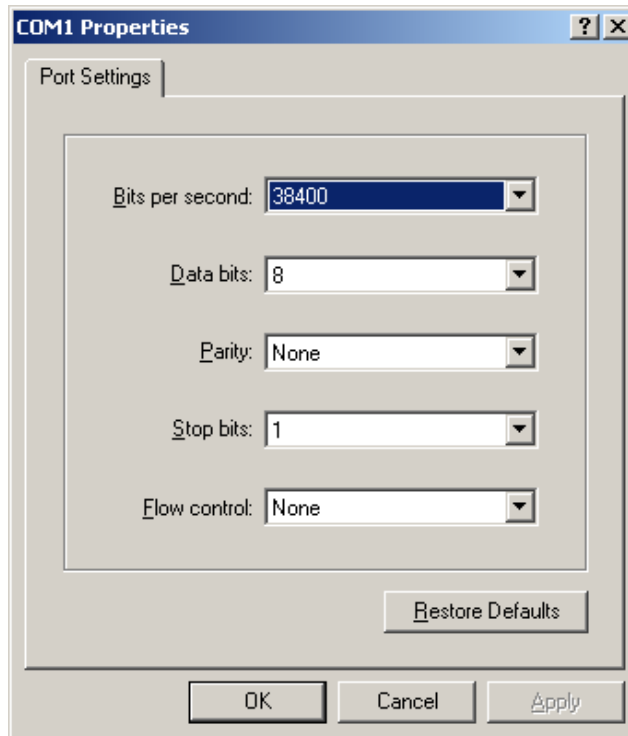

Figure 10-1. Serial Port Configuration
2. Run a terminal emulation program such as *HyperTerminal* or *TeraTerm* on your PC. Configure a serial port with the parameters shown in Figure 10-1: